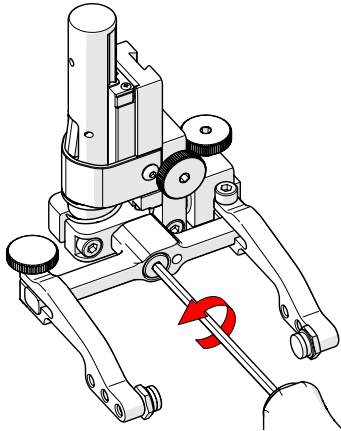

Fig. 187 - Unscrew yoke pivot screw
2. Using the supplied 3 mm hex driver (Fig. 1), unscrew the yoke pivot screw and remove yoke (Fig. 187).